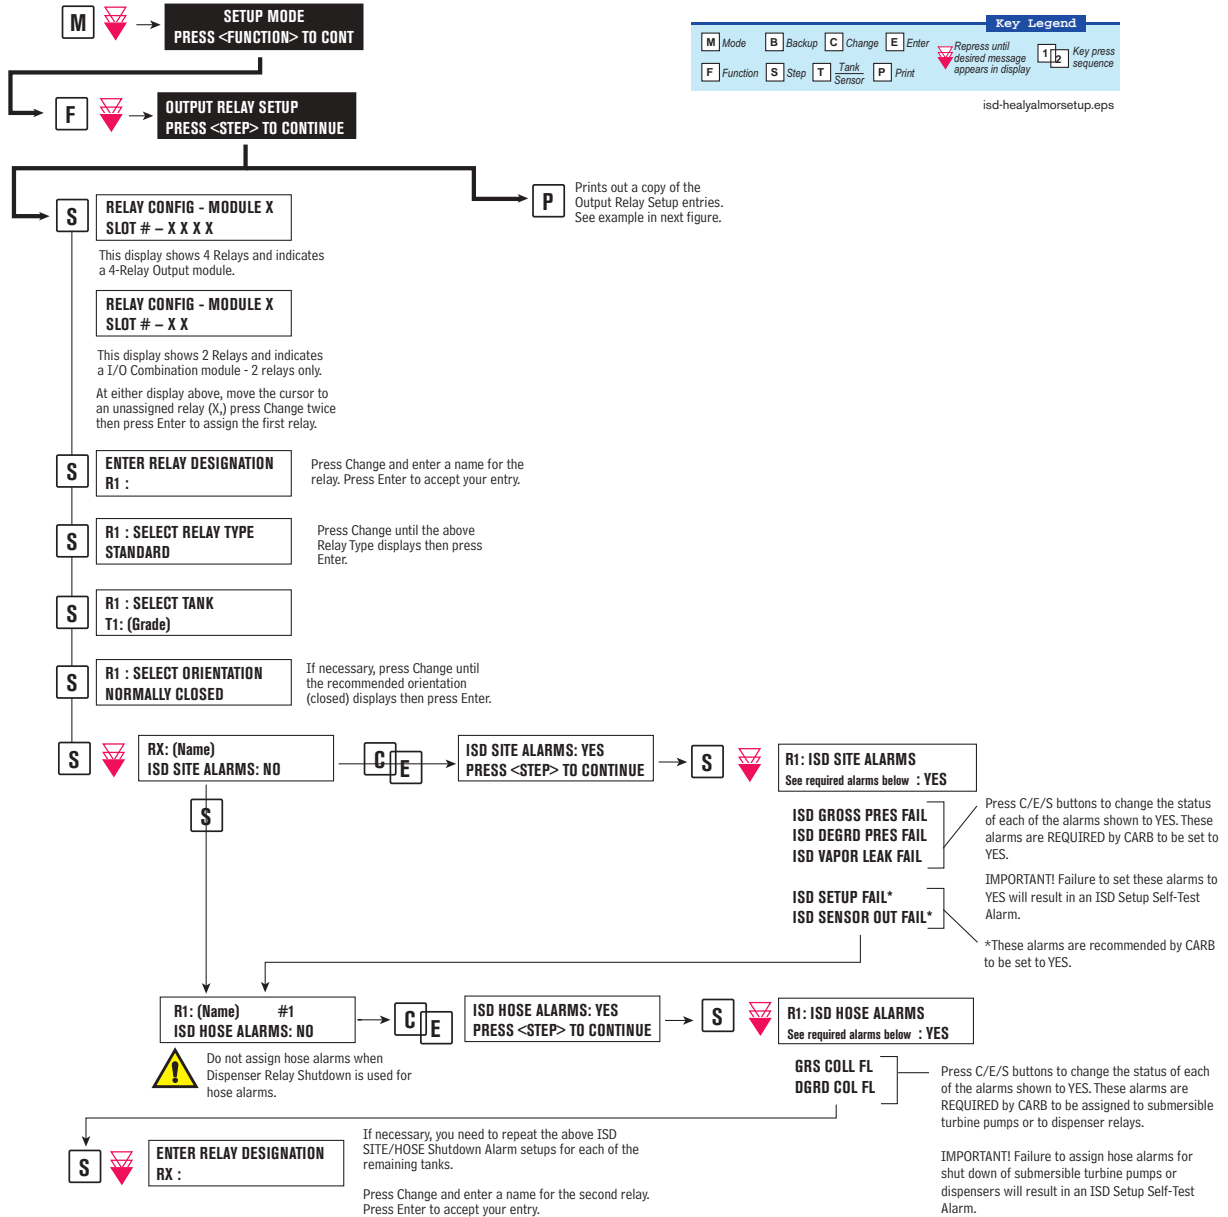

Figure 13. Assigning ISD Shut Down Alarms in Output Relay Setup
- Output Relay Setup - For ISD sites without line leak detection - Figure 13
Figure 13 illustrates the setup steps required to assign ISD Shut Down Alarms to a tank using either a Four Relay Output Module or an I/O Combination Module.